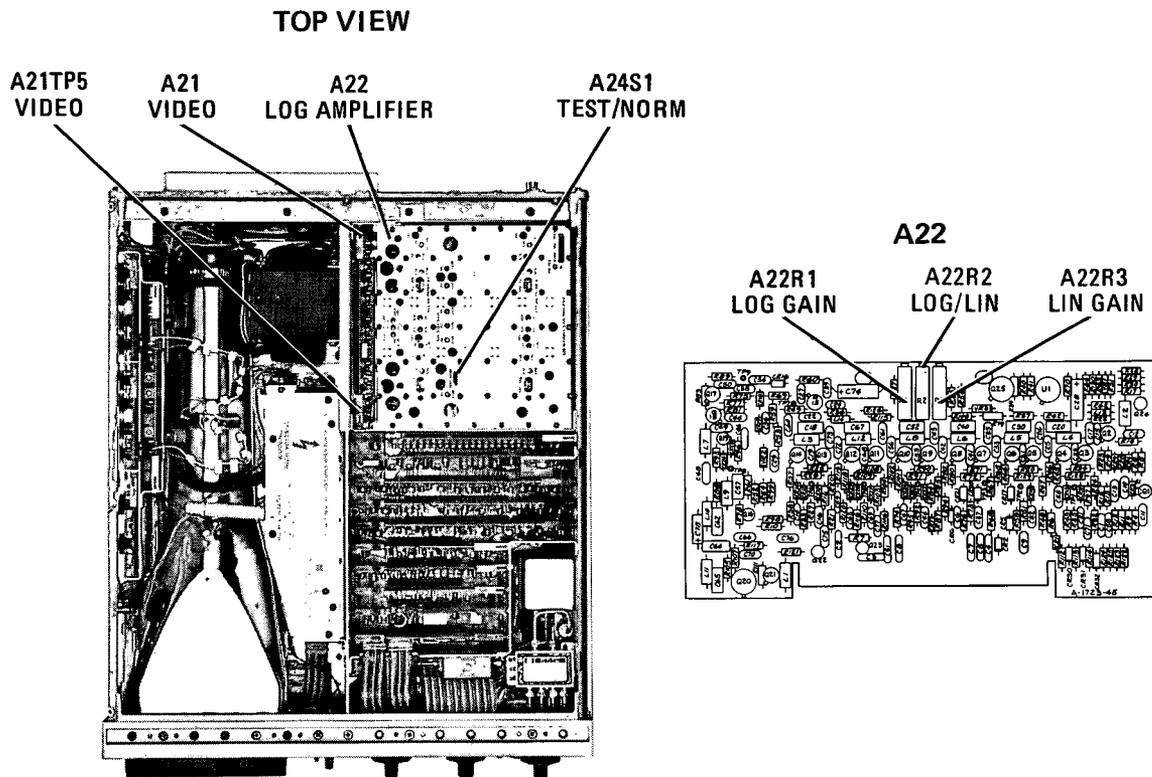

Figure 5-17. Log Amplifier Adjustment Locations
- f. Set REF LEVEL control to -80 dBm and 10 dB step attenuator to 30 dB. Adjust A22R3 LIN GAIN (see Figure 5-17) for 700 mV at A21TP5.